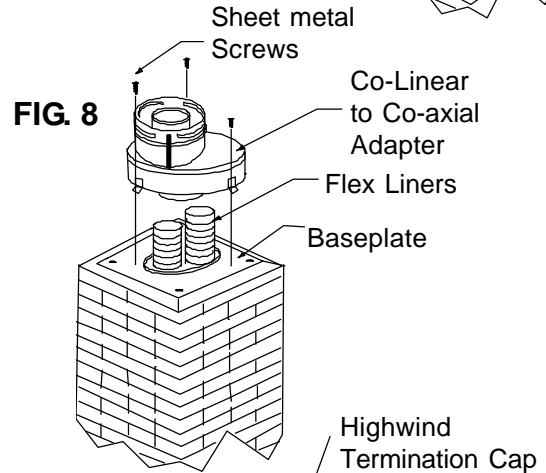

FIG. 8
**Step 7.** Attach the flex liner at the top of the chimney to the co-linear to co-axial adaptor. Use four sheet metal screws to connect each flex liner run to the adaptor. Mount the adaptor to the baseplate using sheet metal screws, as shown (see Figure 8).